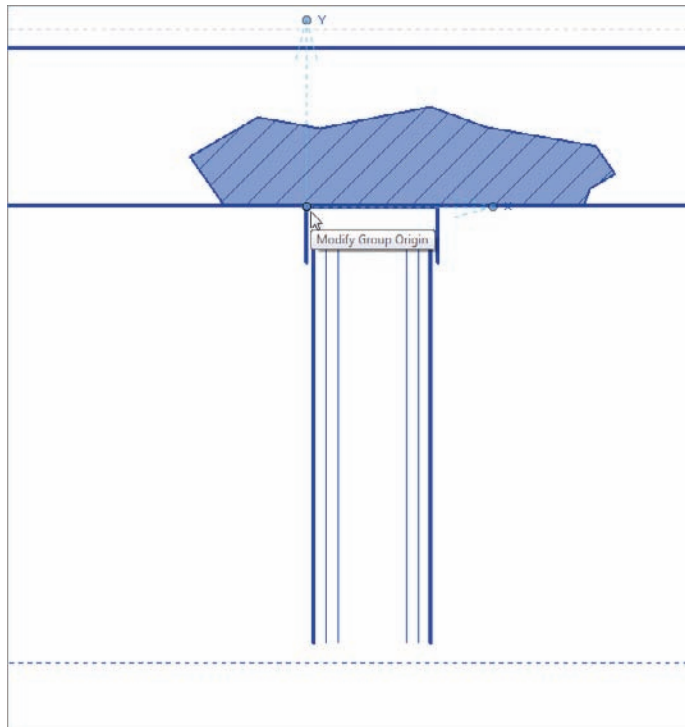

FIGURE 12.73 Move the origin to the location shown here.
4. The group has been created. You see an icon similar to the UCS icon in AutoCAD: this is your origin. Pick the middle grip, and drag it to the left corner of the track (where it meets the floor), as shown in Figure 12.73.